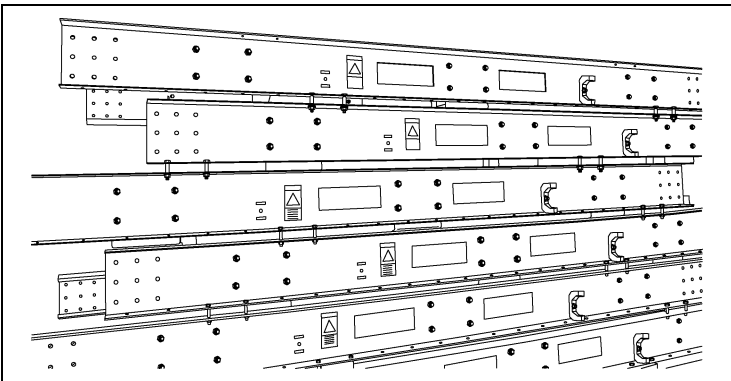

Figure 4D
2. Take note of the trunking identification/numbering system; use this to help you assemble the trunking in the correct order. Figure 4D shows the trunking sections shipped from InterSystems factory.